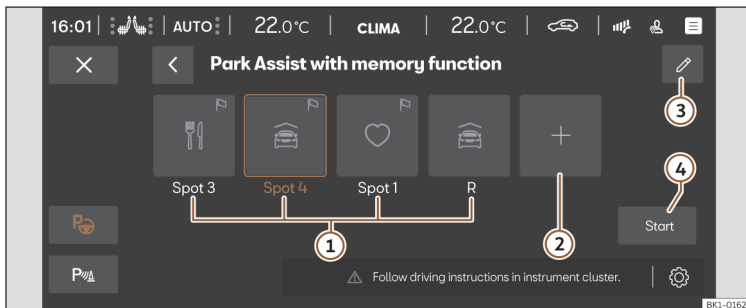

Fig. 133 Schematic representation: Parking system menu with memory function.
4. Select the function button, assign the symbol you want (**>>> Fig. 133 ①**) and confirm it.
1. Press >>> **Fig. 133** ③.
2. If necessary, click on the parking space available icon in the Parking System menu >>> **Fig. 133** ①. The function button will be displayed in blue.
3. Press the **Start** button >>> **Fig. 133** ④.